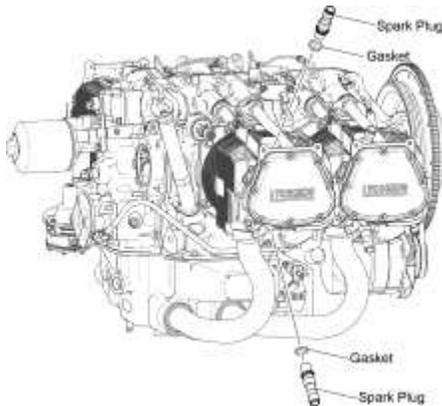

Figure 2
- C. Use the applicable sized socket on top of the spark plug and turn the socket to remove the spark plug from the engine cylinder head (Figure 2).
E. Remove and discard the gasket from the spark plug (Figure 2).